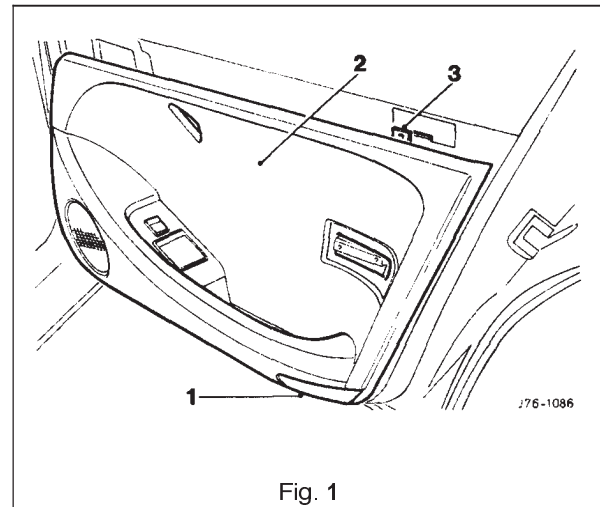

Fig. 1
- From inside the door pocket, release the puddle lamp (1 Fig. 1) securing quarter turn fastener.
- Carefully displace the trim pad (2 Fig. 1) from the door retaining clips.
- Displace trim pad from the upper retaining tang (3 Fig. 1).
- Displace the trim panel (2 Fig. 1) from door retaining clips.